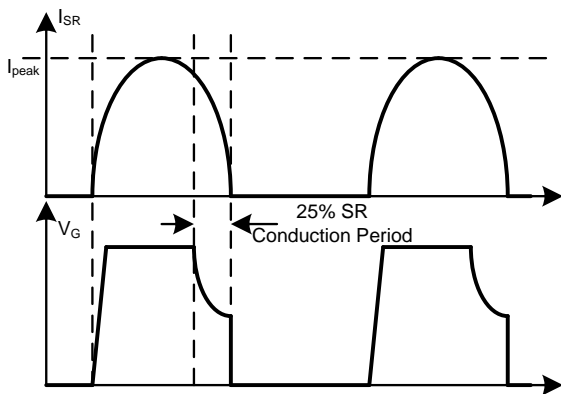

Figure 12: Synchronous Rectification Typical Waveform in LLC
Figure 12 shows the typical waveform of the LLC on the secondary side. To achieve a fairly high usage of the MOSFET’s $R_{DS(ON)}$, it is expected that the MOSFET driver voltage is kept at the maximum level until the last 25% of the SR conduction period. Calculate V_{DS} with Equation (2):